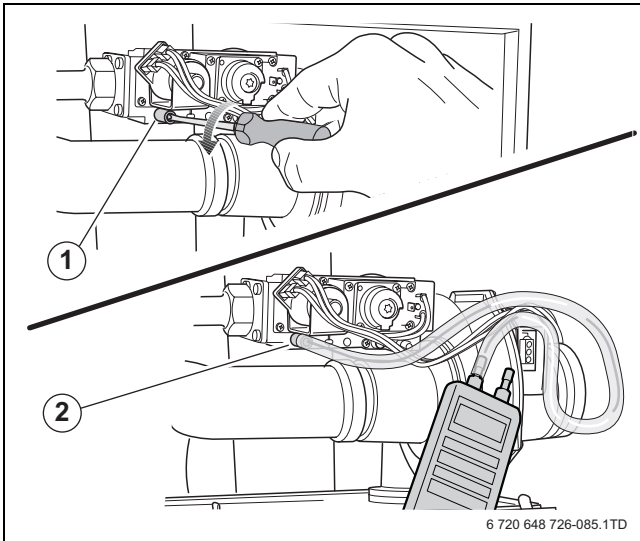

Fig. 85 Measuring the gas supply pressure
- ▶ Slowly open the gas valve by pushing on the gas valve and turning it anticlockwise through ¼ rotation (fig. 85, page 58). The gas valve is open when it is in the vertical position.